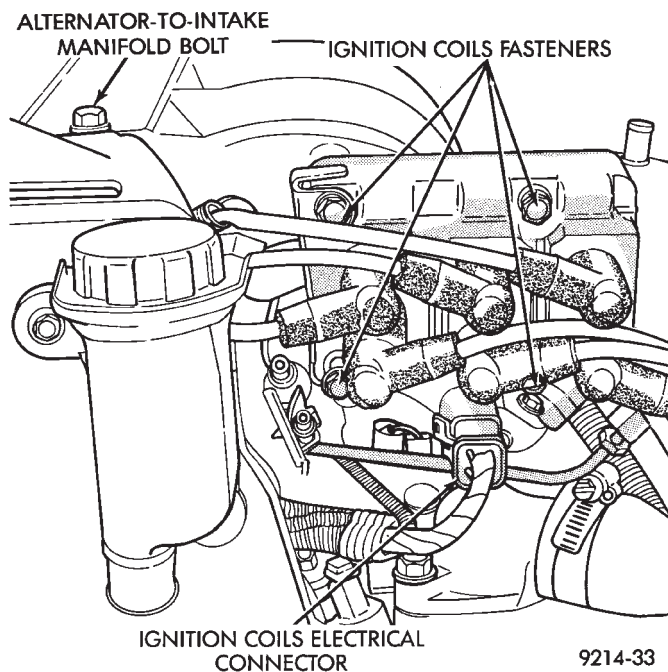

Fig. 10 Ignition Coils
- (12) Remove the fuel hose quick connect fittings from the chassis tubes. **Refer to Fuel Hoses, Clamps and Quick Connect Fittings in the Fuel Delivery Section of this Group.** Place a shop towel under the connections to absorb any fuel spilled. fittings.
- (13) Remove direct ignition system (DIS) coils and alternator bracket to intake manifold bolt (Fig. 10).